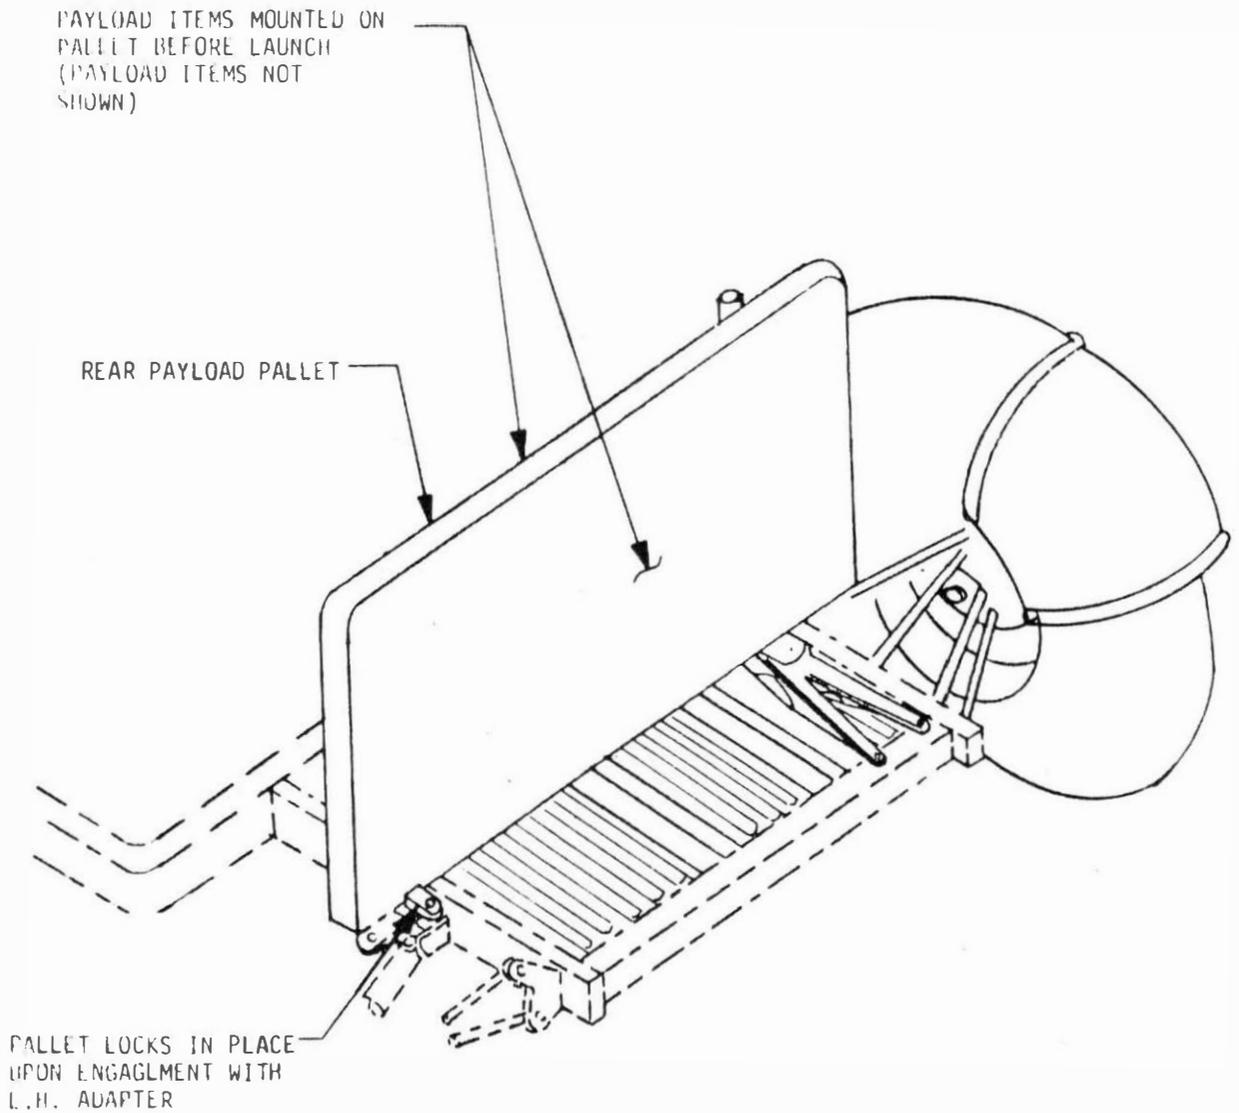

FIGURE 2-17 REAR PAYLOAD PALLET INSTALLED
e. Rotate pallet about support post until pallet locks in pallet adapter on LRV LH aft chassis.	Figure 2-17.